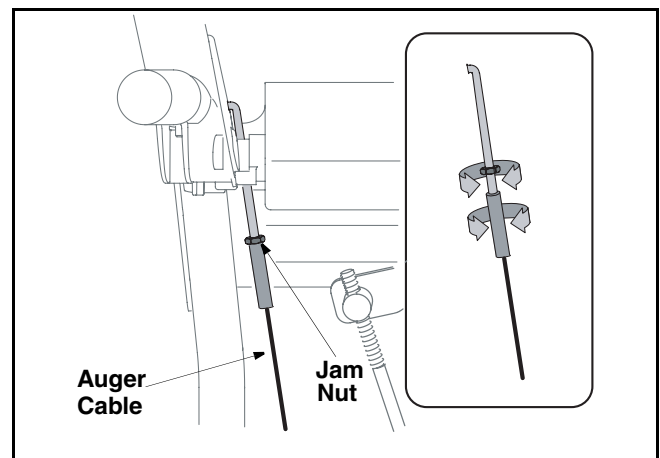

Figure 5
8. If adjustment is necessary, loosen the jam nut and thread the cable in (for less slack) or out (for more slack). See Figure 5.